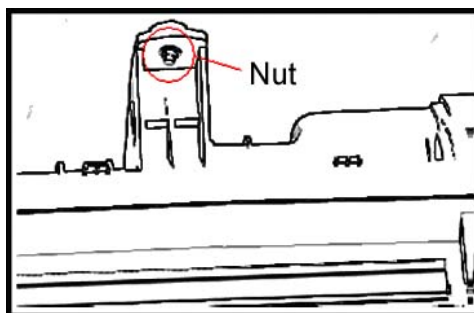

Figure 6-21
(11) Disassemble nuts in Figure 6-21.